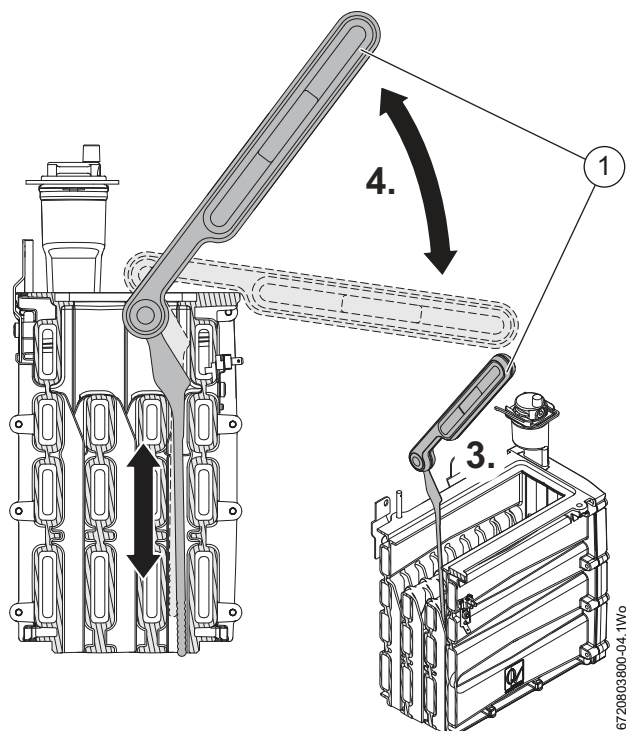

Fig. 67 Cleaning the front channels
3. Orient the cleaning tool (2) as shown in figure 67 and insert the tool into the front channel for cleaning.